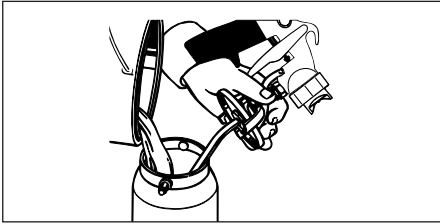

Figure 3 - Filling Paint Cup
2. Pour material into paint cup. Fill cup only 1/2 to 3/4 full if thinning is required. (See Figure 3). Refer to Chart 1 for proper thinning instructions.